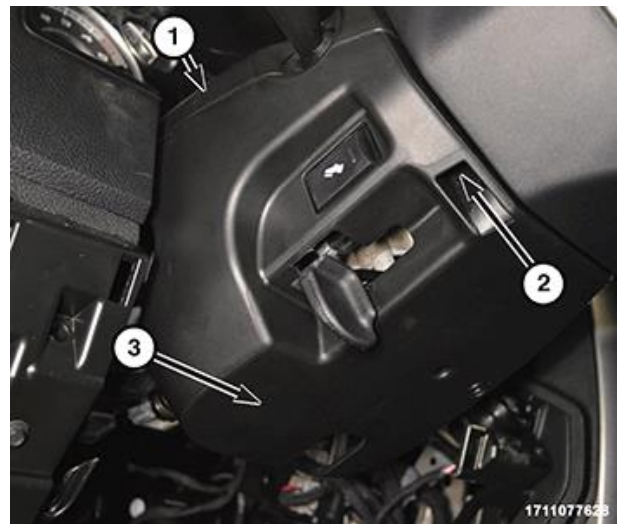

Figure 1 – Steering Column Upper Shroud
4. From below the steering column, remove the two outboard screws within the recess areas (2) that secure the upper shroud (1) to the lower shroud (3) (Figure 1).
5. Remove the upper shroud (1) by pushing gently inward and upward on both sides of the upper shroud above the parting line of the lower shroud to release the snap features that secure the two shroud halves to each other (Figure 1).